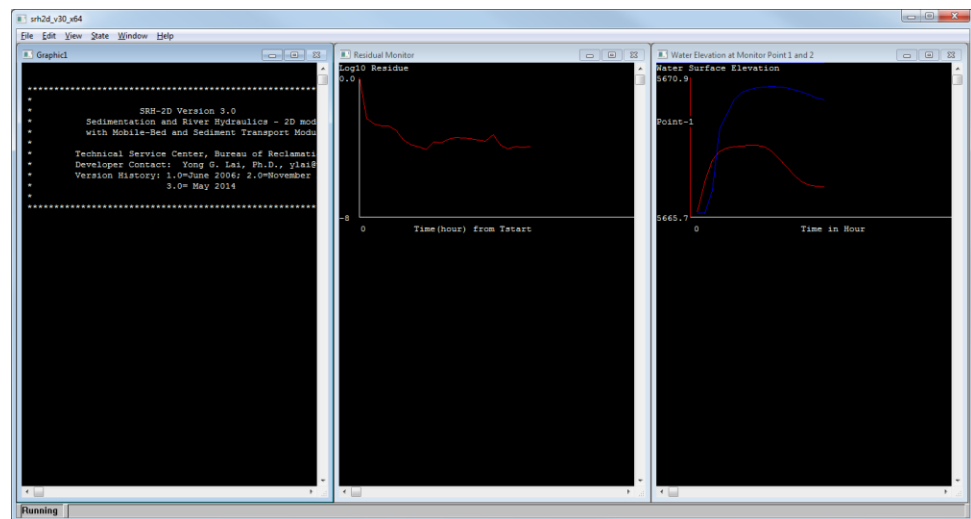

Figure 7 Wrapper window showing SRH-2D running status
2. Select **OK** if a warning is displayed stating that the Weir Materials or Weir BC coverage will be renumbered before exporting. This brings up the *SRH-2D: Weir Flow* dialog and a wrapper window with three windows. The windows can be resized and arranged so that each can be seen, as shown in Figure 7.